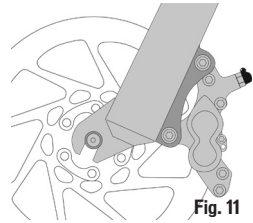
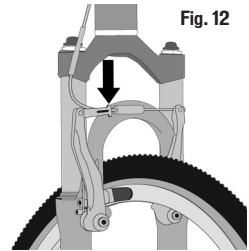

Fig. 11
Fig. 12
(1) If your bike has rim brakes, disengage the brake's quick-release mechanism to increase the clearance between the tire and the brake pads (See Section 4.C fig. 11 through 15).
(2) If your bike has rim brakes, disengage the brake's quick-release mechanism to increase the clearance between the wheel rim and the brake pads (see Section 4.C, figs. 11 through 15).
(3) On a derailleur gear system, pull the derailleur body back with your right hand.
3. Some bicycle brakes, such as disc brakes (fig. 11) and linear-pull brakes (fig. 12), are extremely powerful. Take extra care in becoming familiar with these brakes and exercise particular care when using them.
Most rim brakes have some form of quick-release mechanism to allow the brake pads to clear the tire when a wheel is removed or reinstalled. When the brake quick release is in the open position, the brakes are inoperative. Ask your dealer to make sure that you understand the way the brake quick release works on your bike (see figs. 12, 13, 14 & 15) and check each time to make sure both brakes work correctly before you get on the bike.